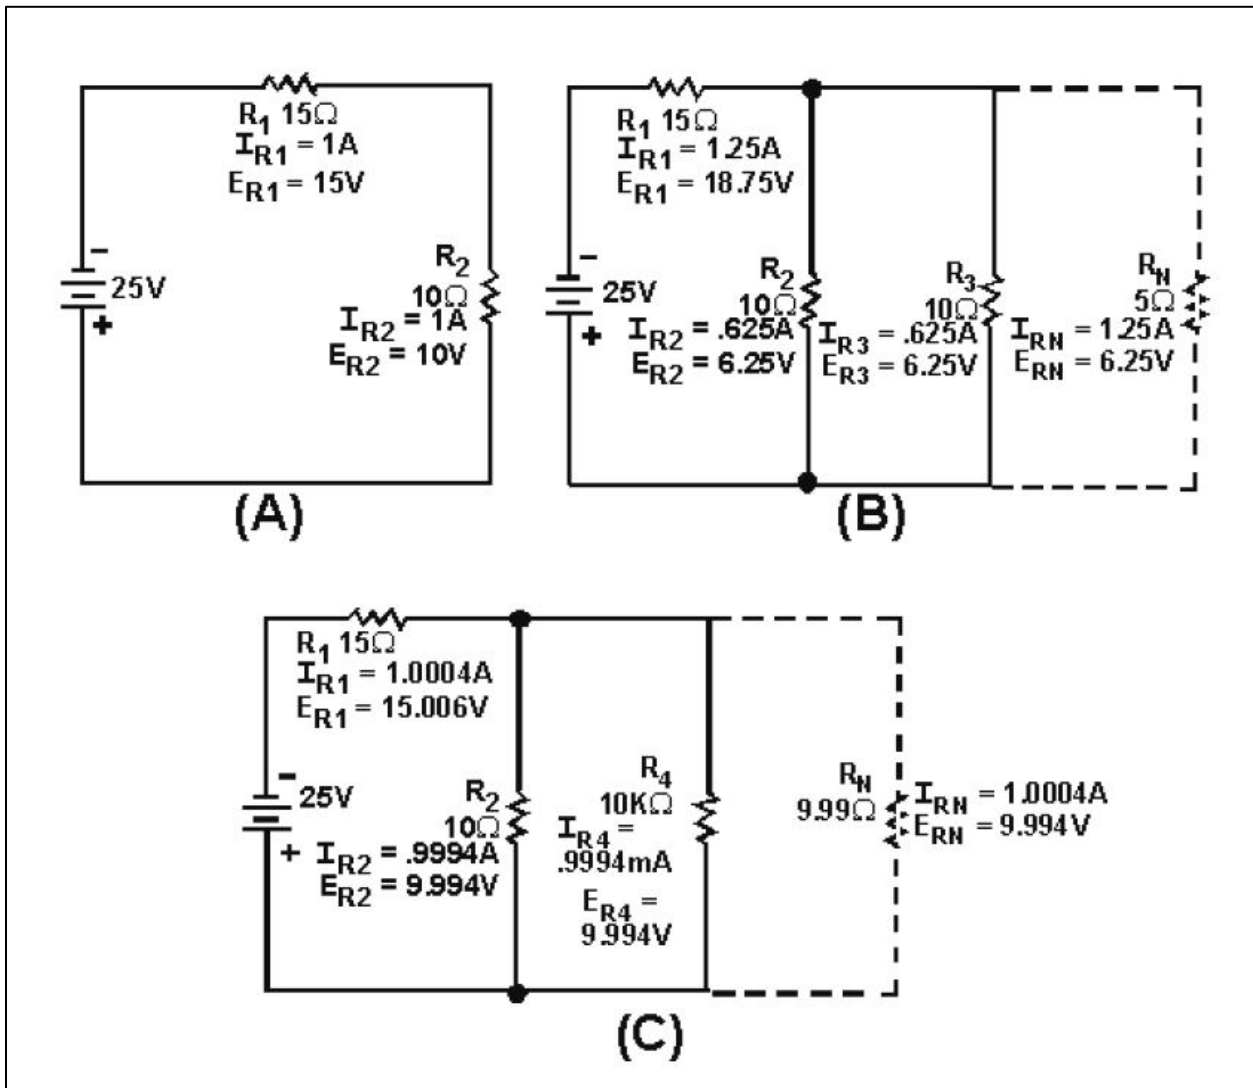

Figure 23: The loading effect.
Every meter impacts the circuit it is measuring to some extent, just as any tire-pressure gauge changes the measured tire pressure slightly as some air is let out to operate the gauge. While some impact is inevitable, it can be minimized through good meter design. Since voltmeters are always connected in parallel with the component or components under test, any current through the voltmeter will contribute to the overall current in the tested circuit, potentially affecting the voltage being measured. A perfect voltmeter has infinite resistance, so that it draws no current from the circuit under test. However, perfect voltmeters only exist in the pages of textbooks, not in real life! This effect on the circuit being measured is called **loading** the circuit. Figure 23 illustrates the loading effect and the way in which the loading effect is kept to a minimum.
In Figure 23(A), a series circuit is shown with R_1 equaling 15 ohms and R_2 equaling 10 ohms. The voltage across R_2 (E_{R_2}) equals 10 volts. If a meter (represented by R_3) with a resistance of 10 ohms is connected in parallel with R_2 , as in Figure 23(B), the combined resistance of R_2 and R_3 (R_n) is equal to 5 ohms. The voltage across R_2 and R_3 is now 6.25 volts, and that is what the meter will indicate. Notice that the voltage across R_1 and the circuit current have both increased. The addition of the meter (R_3) has loaded the circuit.
In Figure 23(C), the low-resistance meter (R_3) is replaced by a higher resistance meter (R_4) with a resistance of 10 k Ω . The combined resistance of R_2 and R_4 (R_n) is equal to 9.99 ohms. The voltage across R_2 and R_4 is now 9.99 volts, the value that will be indicated on the meter. This is much closer to the voltage across R_2 , with no meter (R_3 or R_4) in the circuit. Notice that the voltage across R_1 and the circuit current in Figure 23(C) are much closer to the values in Figure 23(A). The current (I_{R_4}) through the meter (R_4) in Figure 23(C) is also very small compared to the current (I_{R_2}) through R_2 . In Figure 23(C) the meter (R_4) has much less effect on the circuit and does not load the circuit as much. Therefore, a voltmeter should have a high resistance compared to the circuit being measured, to minimize the loading effect.